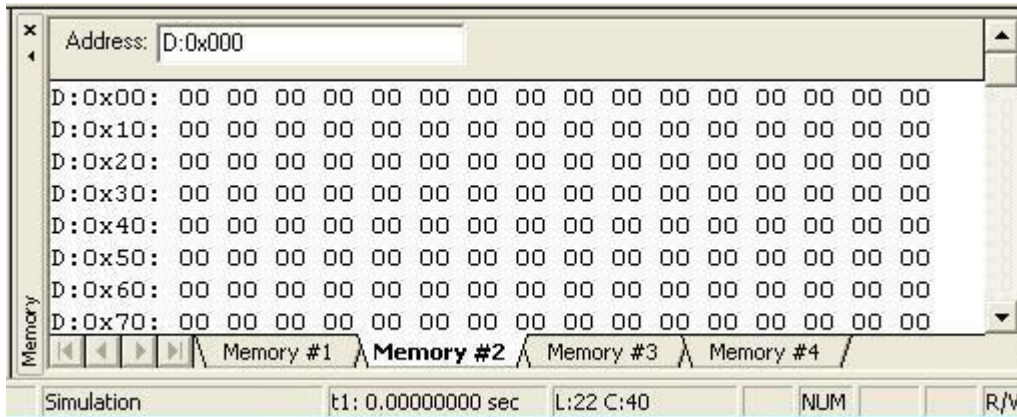

Figure 2.3 Memory window
4. On bottom right of the compiler a memory window will appear as shown in Figure 2.3. Replace C:0x0000 with D:0x(desired address). Values are shown from left to right with increasing addresses, starting with prescribed address